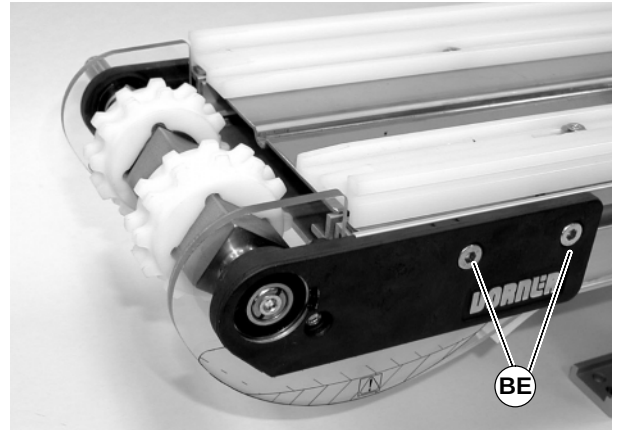

Figure 49
6. Install pulley assembly on conveyor. On both sides of conveyor tighten fastening screws (BE of Figure 49) to 60 in-lb (7 N-m).